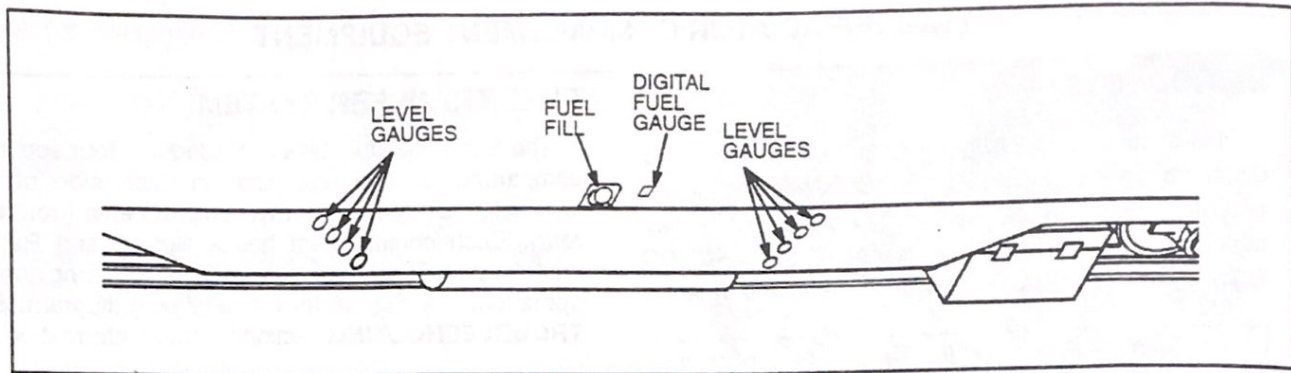

FIG. 41. FUEL FILL AND LEVEL GAUGES (LEFT SIDE). E-41065A.
1. Fuel-Oil Sight Glasses – Mounted in the sides of the fuel tanks (Fig. 41) to indicate the level of fuel in the tanks. Top glass (per tank) indicates approximately 500 gallons, second glass indicates approximately 315 gallons, third glass approximately 150 gallons and bottom glass approximately 30 gallons.
2. Fuel-Oil Digital Readout – Mounted in the sides of the fuel tanks (Fig. 41). Total fuel approximation is calculated by adding the readings from the two sensors then multiplying by two.